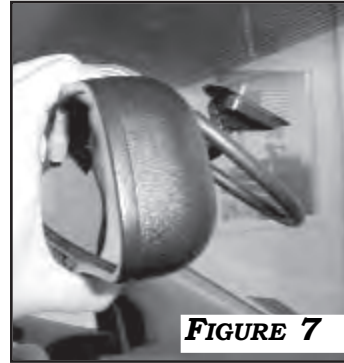
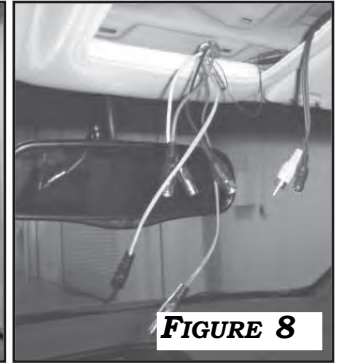

FIGURE 7
FIGURE 8
1. MOUNT REARSIGHT MIRROR ON EXISTING WINDSHIELD LUG AND TIGHTEN SCREW. (FIGURE 7) ROUTE MIRROR HARNESS UP WINDSHIELD AND BEHIND THE HEADLINER TO CONSOLE OPENING. ROUTE THE END OF THE CAMERA EXTENSION HARNESS MARKED “TO MIRROR” WITH THE MALE CONNECTORS UP THE CENTER OF THE WINDSHIELD AND BEHIND HEADLINER TO THE CONSOLE OPENING. FIGURE 8